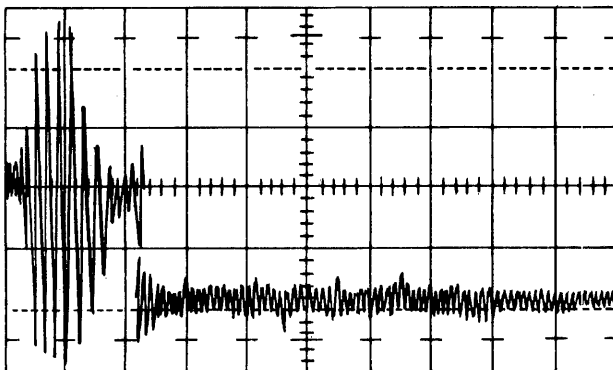

Figure 2-14. Cylinder Transducer Output, 1 Cylinder Seek
- b. Observe, at GTDATN/ time, signal amplitude is less than 130 millivolts in all cases. If not, adjust POSITION GAIN potentiometer for best compromise less than 130 millivolts. Refer to Figures 2-14 and 2-15.